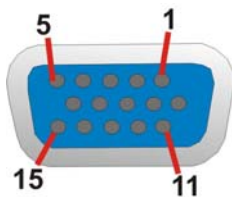

Figure 4-15: VGA Connector
- CN Pinouts:** See Figure 4-15 and Table 4-8